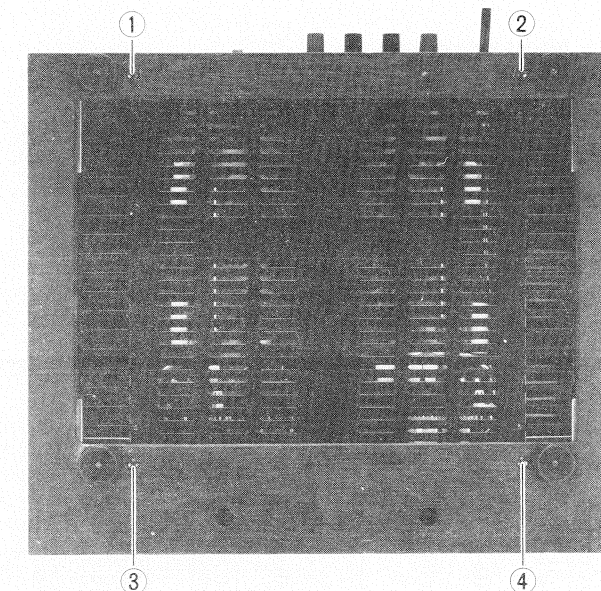

Fig. 1
1. Remove four screws ① - ④ near the foot shown in Fig 1.